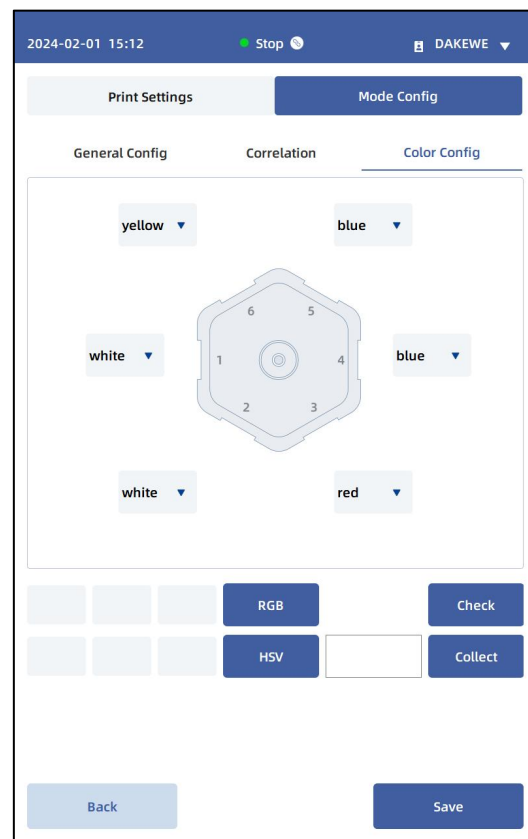

Figure 4-50 Channel Configuration and Color Calibration (C100)
(5) Assign a corresponding color to each channel in the "Color Config" interface, and click the "Save" button. The Auto Color Recognition System is calibrated against white, and channel 1 must be assigned white (Figure 4-50).